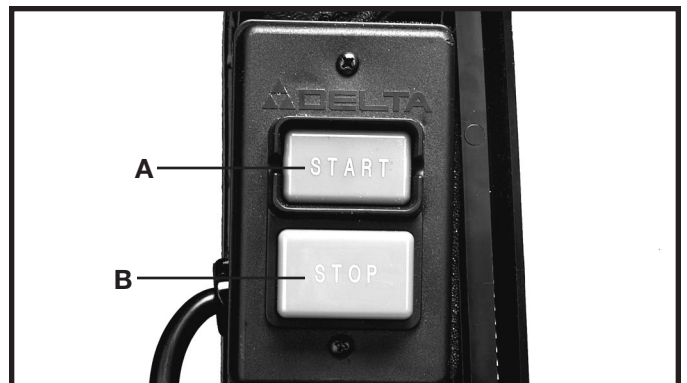

Fig. 41
The power switch is located on the left side of the machine. To turn the machine "ON", push the green start button (A) Fig. 41. To turn the machine "OFF", push the red stop button (B).